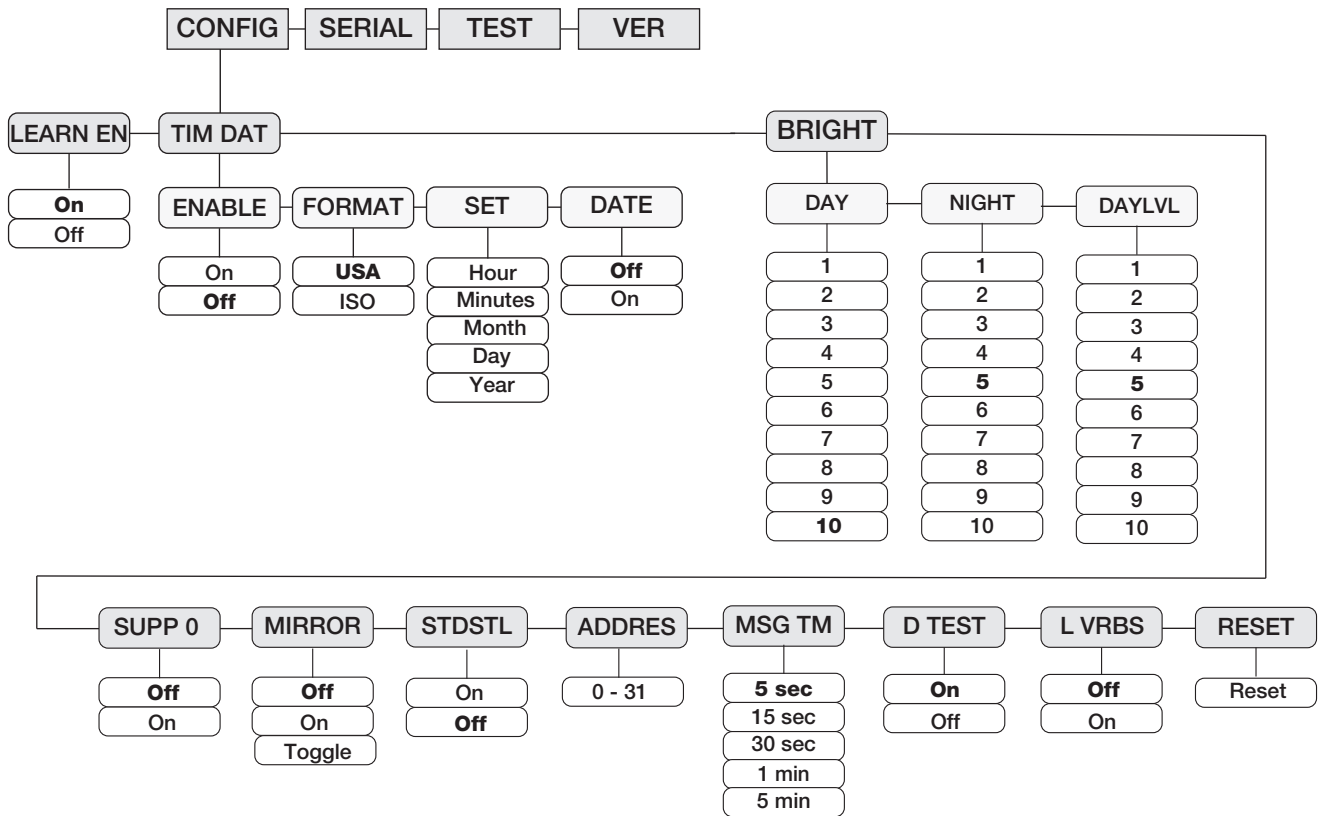

Figure 3-3. Configuration Main Menu Choices
1. Go to **CONFIG** and enable Time and Date under **Enable** (Figure 3-3 on page 21).